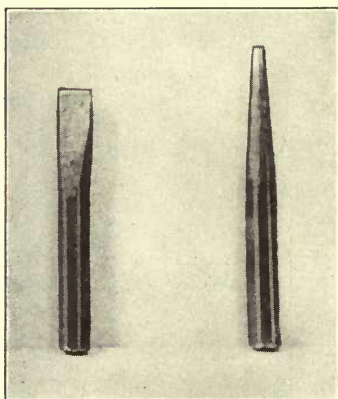

FIG. 53. COLD CHISEL
1. Shape the end as shown in the drawing, Plate 27. The cutting edge must always be made wider than the handle above it. Do not, however, let it flare out very wide. See Fig. 53.
1. Shape like the center punch but make the taper longer as shown in the drawing and Fig. 53. The point must be flat.